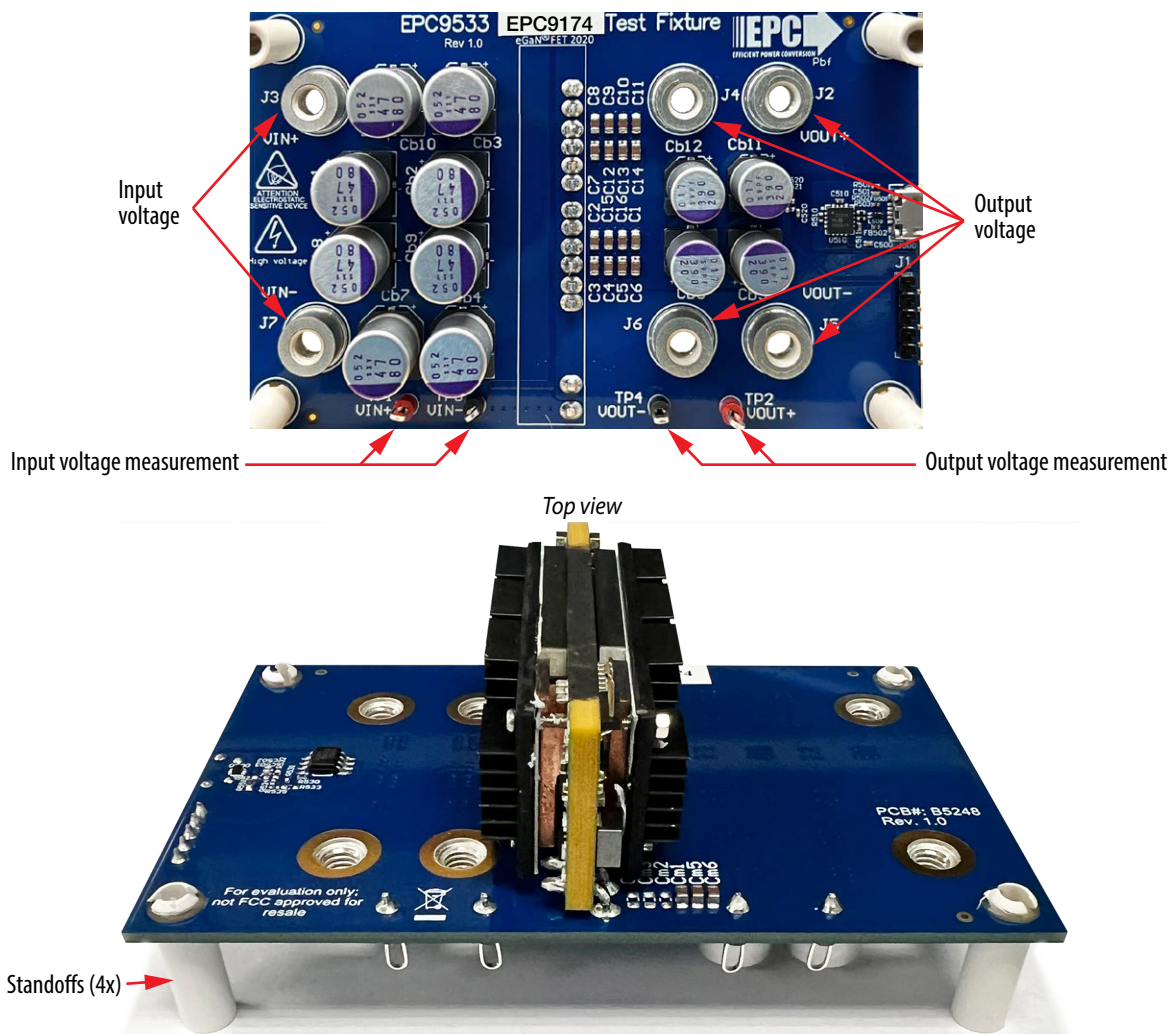

Figure 3: EPC9174 and motherboard assembly showing the input and output connections
3. With power off, connect the input power supply to V_{IN+} and V_{IN-} as shown in Figure 3.
4. With power off, connect the load to V_{OUT+} and V_{OUT-} as shown in Figure 3.
5. Connect the input and output kelvin connections shown in Figure 3 to the measurement devices.